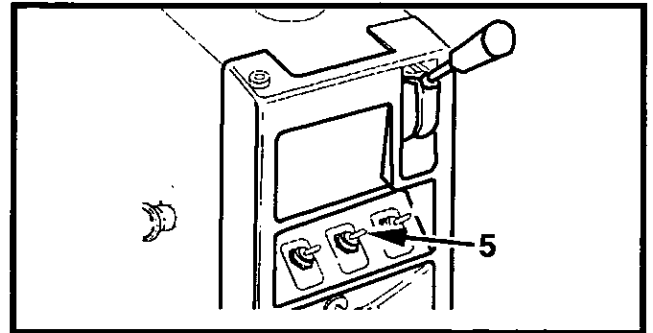

Figure 4-21 Water Control Switch
1. If ON, stop the water flow by turning the water control switch to = OFF position (5, Figure 4-21).